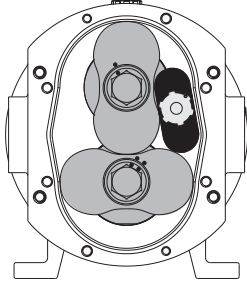

Figure 3
3. Position the rotor locking tool **111** as shown in figure 3.